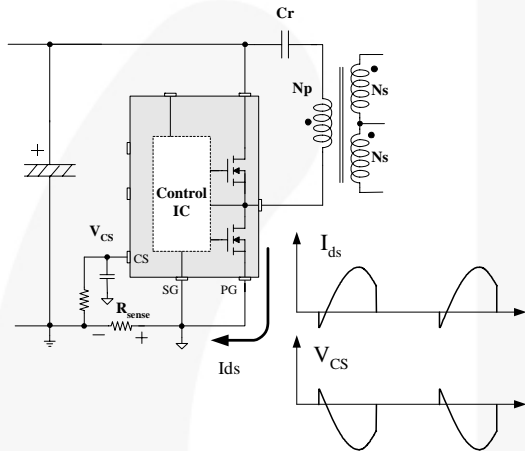
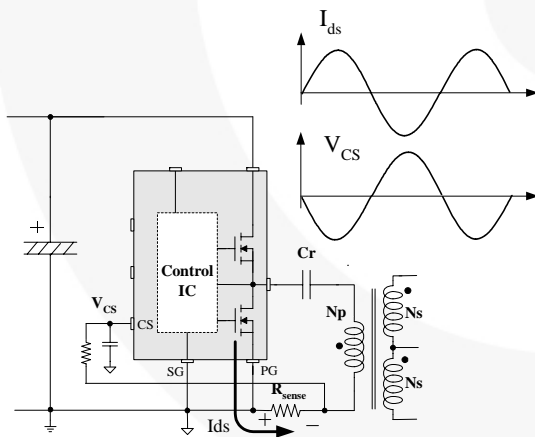

Figure 23. Half-Wave Sensing
Figure 24. Full-Wave Sensing
6. Current Sensing Using a Resistor: FLS-XS series senses drain current as a negative voltage, as shown in Figure 23 and Figure 24. Half-wave sensing allows low power dissipation in the sensing resistor; while full-wave sensing has less switching noise in the sensing signal.